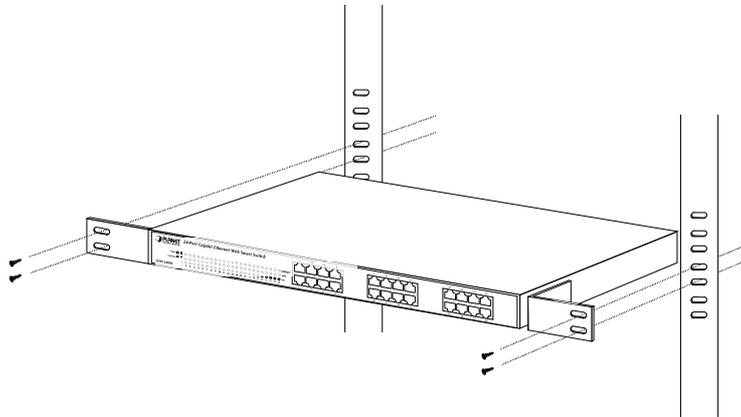

Figure 2-5 Mounting the Switch in a Rack
Step5: After the brackets are attached to the Switch, use suitable screws to securely attach the brackets to the rack, as shown in Figure 2-5